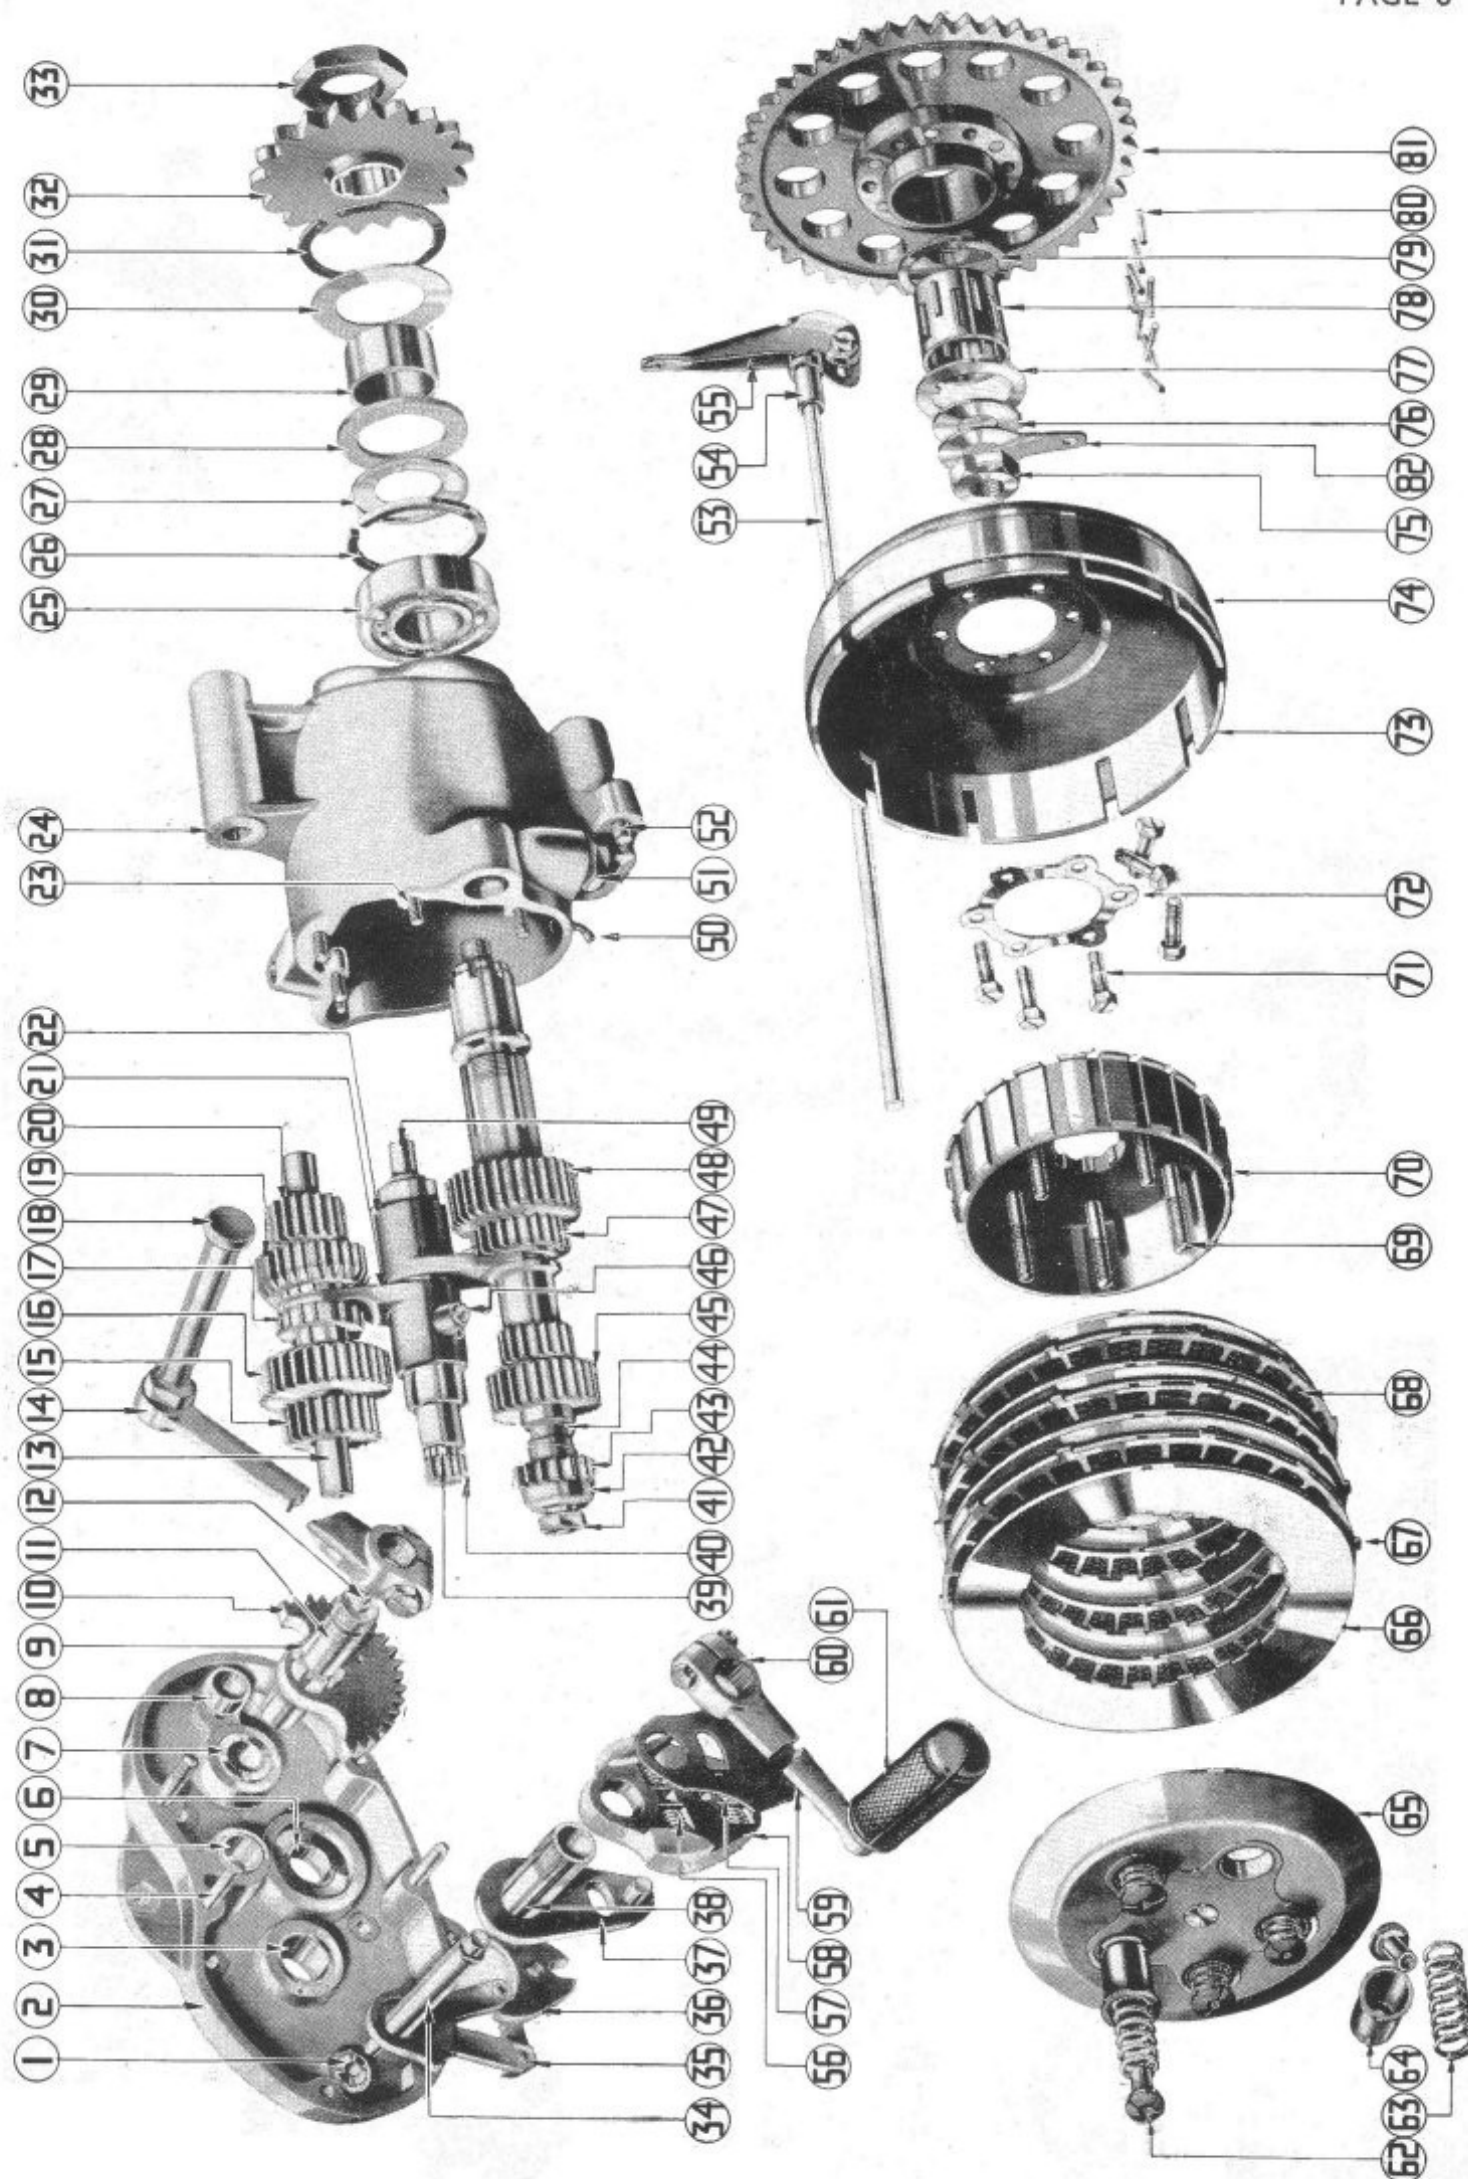

Fig. D3. Exploded View of Gearbox Assembly.
2. Clutch Plates—Removal and Re-assembly.* (See Fig. D3).
3. Removal of the Clutch Body and Sprocket.* (See Fig. D3).
2. Dismantling the Box (See Fig. D3).
3. Re-assembling the Box (See Fig. D3).
NAMES OF PARTS IN GEARBOX ASSEMBLY, Fig. D3.